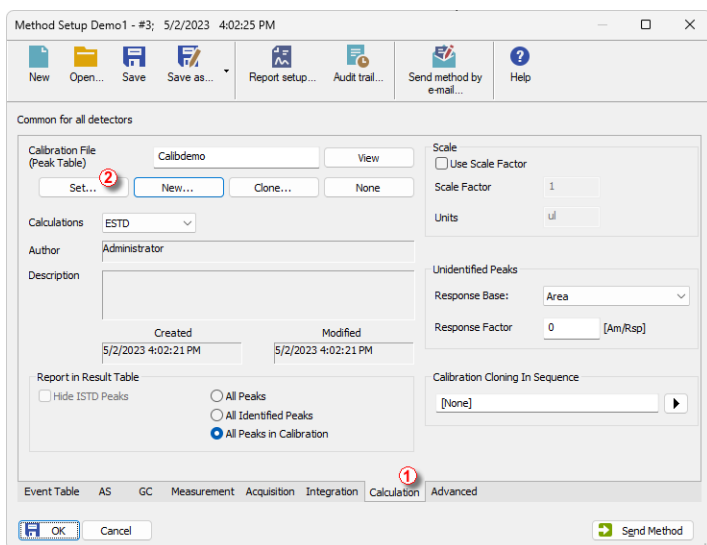

Fig. 14: Method Setup - the Calculation tab
- Return to the *Clarity Lite* window and use the *Method - Calculation...* command to open the *Method Setup* dialog directly on the *Calculation* tab  as shown on **Fig. 14** on pg. 22. Alternatively, open the *Method Setup* by clicking on the icon  and then move to the *Calculation* tab.